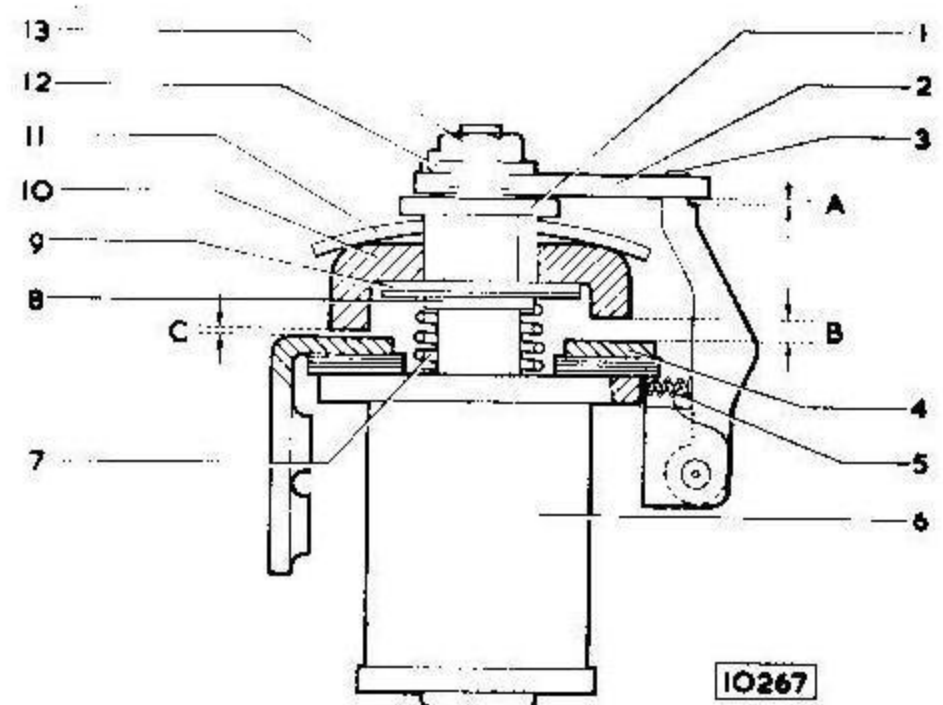

Fig. 14 Sectioned view of the solenoid switch
When the solenoid operating coil (6), Fig. 14, is energised, the magnetic field set up in the winding draws in the solenoid plunger until the first stage contacts are closed, and the catch plate (2) rests on the step in the trigger (3). This position is held until the trigger is raised by the tripping disc on the starter armature, thus allowing the plunger to travel fully home and close the second stage contacts. Both contacts will remain closed until the operating coil is de-energised. The moving contact actuated by the coiled spring (7), will then return to its normally open position.
1. Bend back the tags of the lock washer (12) Fig. 14 and unscrew the nut (13).
2. Withdraw the catch plate (2), contact guide (1), contact leaf spring (11), moving contact (10), adjusting washers (9), insulating washer (6) and return spring (7).
3. Remove the trigger spring (5).
into the switch body lightly with petroleum jelly, and also the leaf spring (11) Fig. 14 at the point of contact with moving contact (10). Apply sparingly to avoid any surplus getting on to the contact faces.
2. Replace the return spring (6), and ensure that it locates over the lip on the periphery of the switch bore.
3. Replace the trigger spring (5).
4. Assemble the insulating washer (8), adjusting washers (9), moving contact (10) contact spring (11), contact guide (1) and catch plate (2).
5. Locate the end of the trigger in the slot in the catch plate, and then replace the lock washer (12) and nut (13). Tighten the nut securely.
6. Check that gaps between the contacts 'B' and 'C' (Fig. 14) are within the limits detailed below. If not, adjusting washers (9) must be added or removed until the correct gap is obtained. The washer (9) must not be removed as it acts as a locating spigot for the return spring. The adjusting washers are made in four thicknesses, 0.1, 0.2, 0.3 and 1.0 mm, and a combination of these sizes should be used to obtain the correct gaps.
8. After the adjustments have been successfully completed, lock the nut (13) by means of the tabs on the lock washer (12).